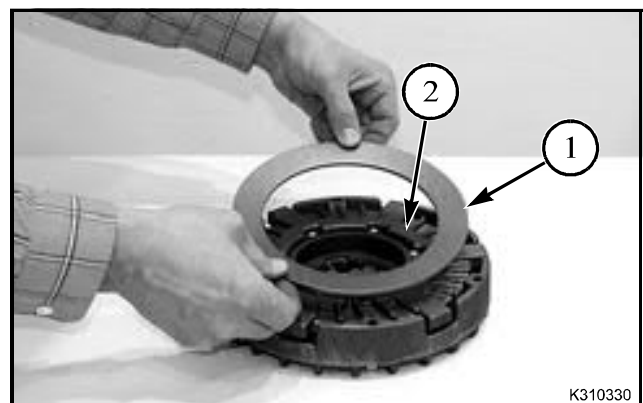

FIG. 15
FIG. 15: Put the disc spring (1) on the pressure plate. Make sure the disc spring is held in position by the spring tabs (2) on the pressure plate. The spring must be installed so the center is low and the outside is high.